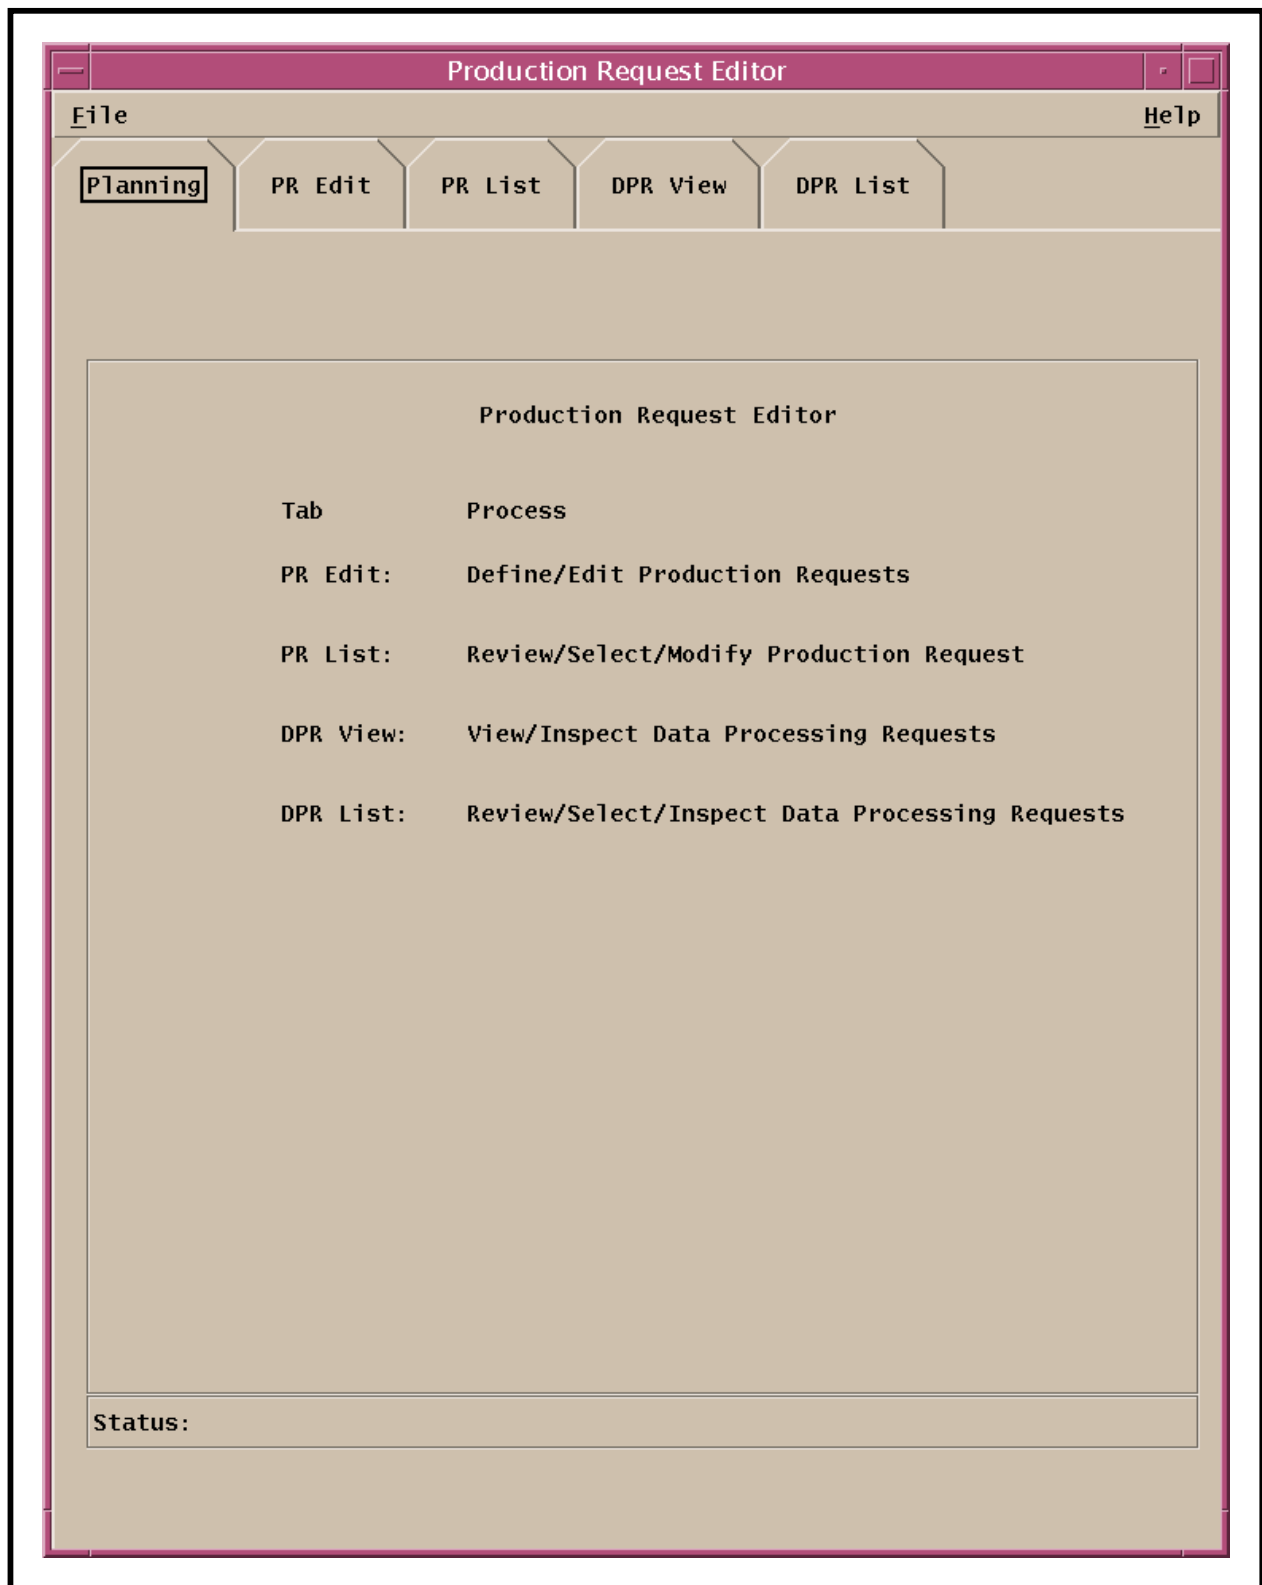

Figure 16. Production Request Editor Introductory GUI
- The **Production Request Editor** graphical user interface (GUI) introductory window (Figure 16) is displayed.
The procedure for creating a new production request starts with the assumption that all applicable servers and the **Production Request Editor** GUI are currently running and the **Production Request Editor** Introductory GUI (Figure 16) is being displayed.